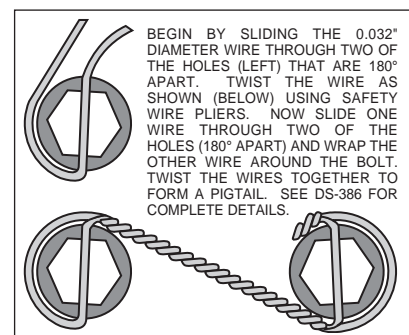
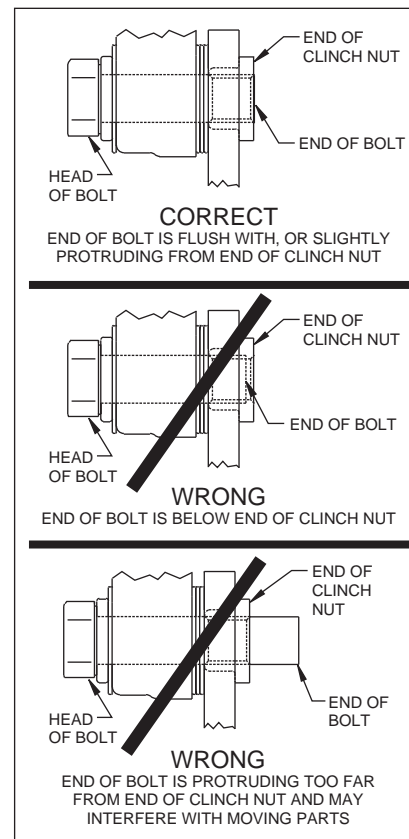

Figure 4. Safety Wire Diagram
Figure 5. Clinch Nut Engagement Diagram
- With the mounting ears pointing towards the rear of the vehicle, install the caliper mounting bracket (1) to the housing flange using the bolts and nuts supplied with the C-clip eliminator kit. Apply red *Loctite*® 271 to the bolt threads and torque to OEM specifications. **NOTE:** The caliper mounting brackets (1) should be located between the axle housing flange and the inner C-clip hub. Make sure the heads of the caliper mounting bracket insert nuts are FACING OUTWARD TOWARDS THE WHEEL.
- Bolt the hat (2) to the rotor (3) using washers (4) and bolts (5). Torque bolts (5) to 180 in-lb. Safety wire bolts (5) using standard 0.032 inch diameter stainless steel safety wire as shown in Figure 4. Please refer to Wilwood's data sheet DS-386 (available at www.wilwood.com/Pdf/DataSheets/ds386.pdf) for complete safety wire installation instructions.
- Align the correct hole pattern in the hat (2) with the stud pattern on the axle flange. **NOTE:** Some OEM and after market axles come with stud sizes larger than 0.50" diameter. Verify stud size and have a qualified machine shop drill the hats to the correct size. Slide the hat/rotor assembly (2 and 3) over the wheel studs and against the axle flange face.
- NOTE:** Please reference the caution statement at the beginning of the assembly instructions. WITH THE BLEED SCREWS POINTING UP, mount the caliper (6) over the rotor (3) and onto the caliper mounting bracket (1) using washers (7) and mounting bolts (8). View the rotor through the top opening of the caliper. The rotor should be aligned in the center of the caliper. If not, adjust the caliper by using 0.032 inch shim washers (9), placing them between the caliper mounting bracket (1) and the caliper (6). Add as many shim washers (9) as necessary to achieve the correct alignment. **NOTE:** The end of the bolt must be flush with or slightly protruding from the head of the clinch nut. See Figure 5. Place spare shims (9) between washer and caliper mounting ear to achieve the proper mounting fastener configuration. Always use the same amount of shims on both the top and bottom caliper mounting bolts (8). Apply red *Loctite*® 271 to the mounting bolt threads (8), torque bolts to 30 ft-lb. Safety wire the caliper mounting bolts (8).
- Position the Wilwood disc brake pads (10) into the caliper (6) and fasten with cotter pin (11). Steel backing plate side of brake pad should face the caliper pistons.